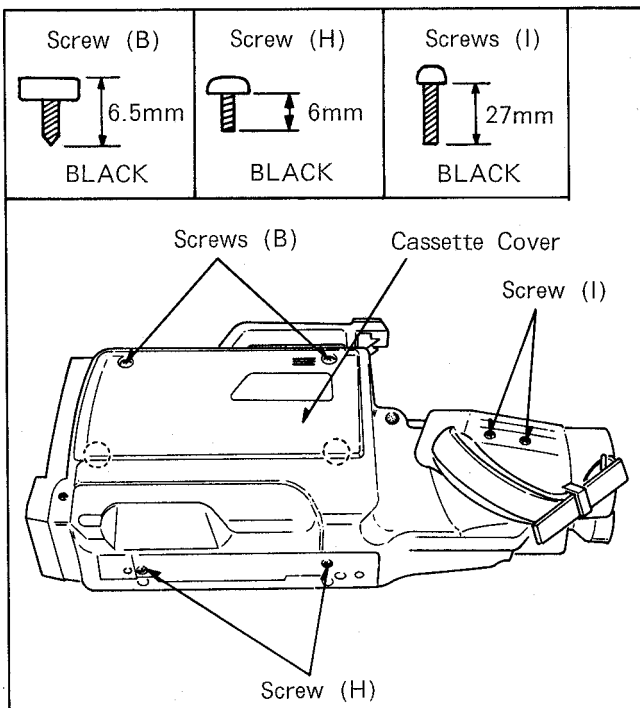

Fig. D5
- (1) Remove Screw(B), 2 Screws(H), 2 Screws(I) shown in Fig.D5.
- (2) Lift the Side Case(L) Unit slightly. Then Disconnect the connector on Main C.B.A. and Process C.B.A..(EVF, TALLY, ZOOM)